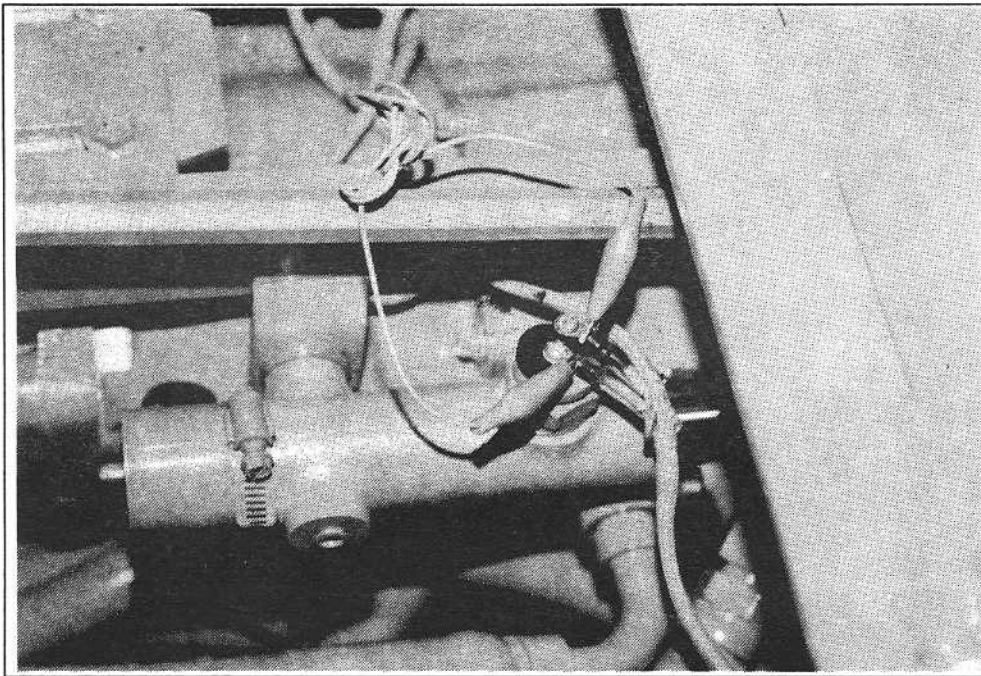

Figure 1-11
1. Connect the two wires using a small clip or jumper wire. If the engine cranks, the switch is not closing properly and must be replaced. (See Figure 1-11)